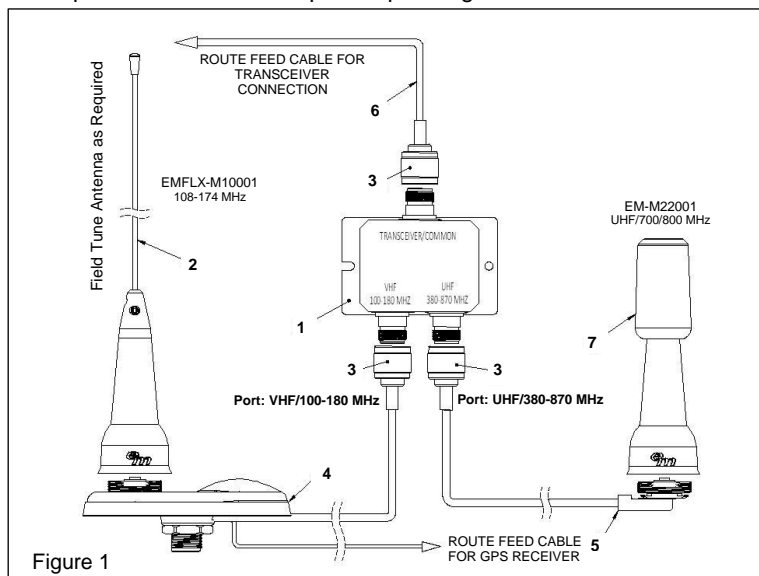

Figure 1
Parts: Verify all parts are included. Reference items in Figure 1:
Installation: (Refer to Figure 1 for antenna/duplexer system configuration.)
6. Attach all remaining connections according to the system diagram in Figure 1.